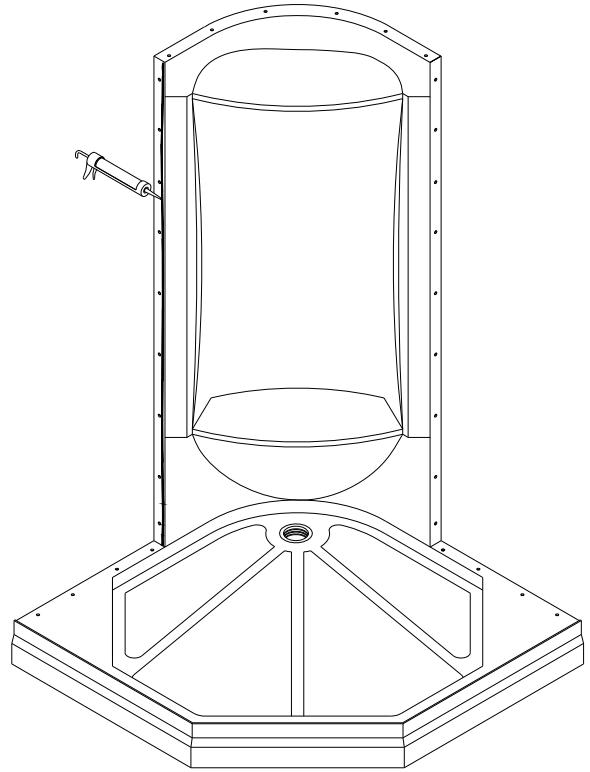

Fig 6
6. Move the **Tray (06)** to the assemble area. Be advised assemble area must to be as close to the installation area as possible to make the movement of the assembled cabin easy. Apply silicone sealant along the holes on the tray. Connect the **Back panel (02)** and the tray with **Bolt M6x40 (22)**. See Fig 5 and Fig 6 for details.